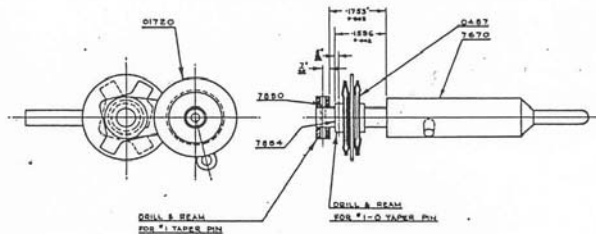

FIGURE 11. INTERLOCKING SWITCH ASSEMBLY
5. Place switch brush assembly onto the lower shaft and match the alignment marks. Refer to figure 11 and space the assembly so that the outer edge of the switch brush assembly hub is 1.596 inches ($\pm .002$ inch) from the large diameter of starting lever. Hold securely in this position and drill and ream a hole diagonally to the old hole in shaft. The hole is to receive a No.1-O taper pin.